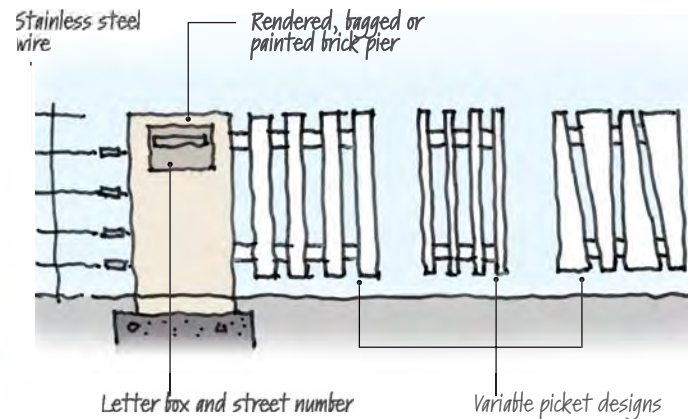
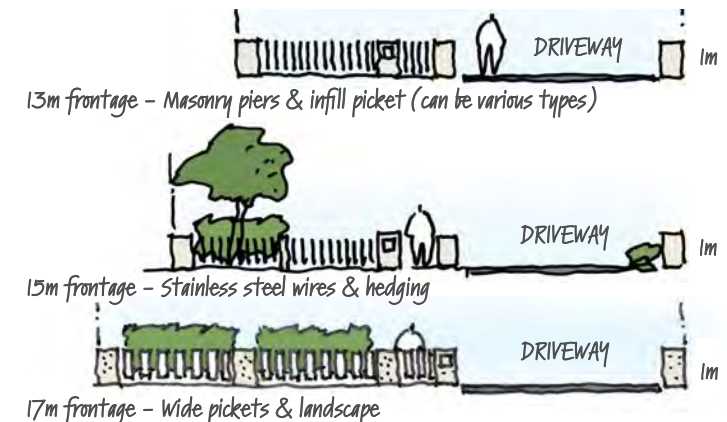

FIGURE 28: Fence Type 2 - Variable picket designs together with entry pier Indicative
FIGURE 29: Fence Type 2 - Indicative front fencing for 13m, 15m and 17m frontage lots
- Masonry, rendered bagged or painted piers, with infill timber pickets, metal picket (flats) or stainless steel wire and turnbuckles (refer Figure 28 and Figure 29).